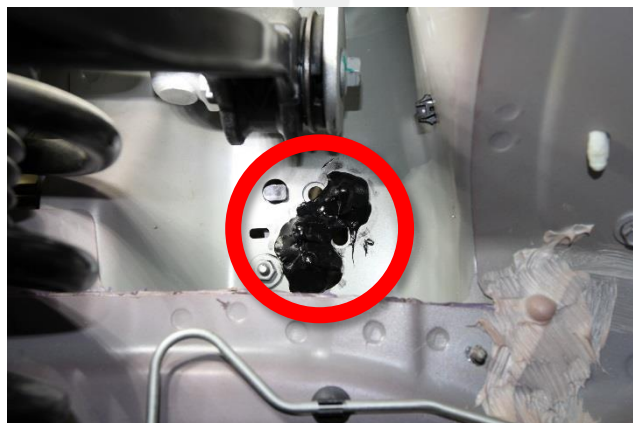

Figure 12
22. Apply urethane sealant to cover the end of each rivet to seal the rivets to the shock tower (Figure 12).